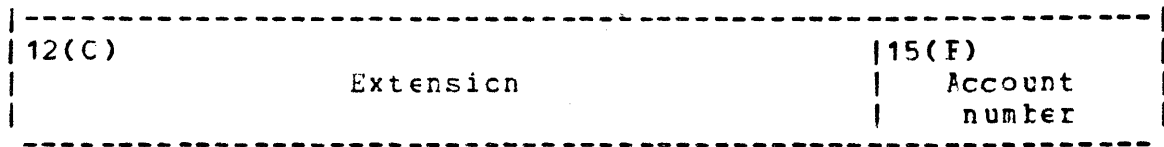

Figure 3-2 Packed File Descriptor (fd) Area for Format 2
- o The area receiving the packed fd is the same as format 1, with the exception of the file class field. The format of the packed fd area used in format 2 is shown in Figure 3-2.